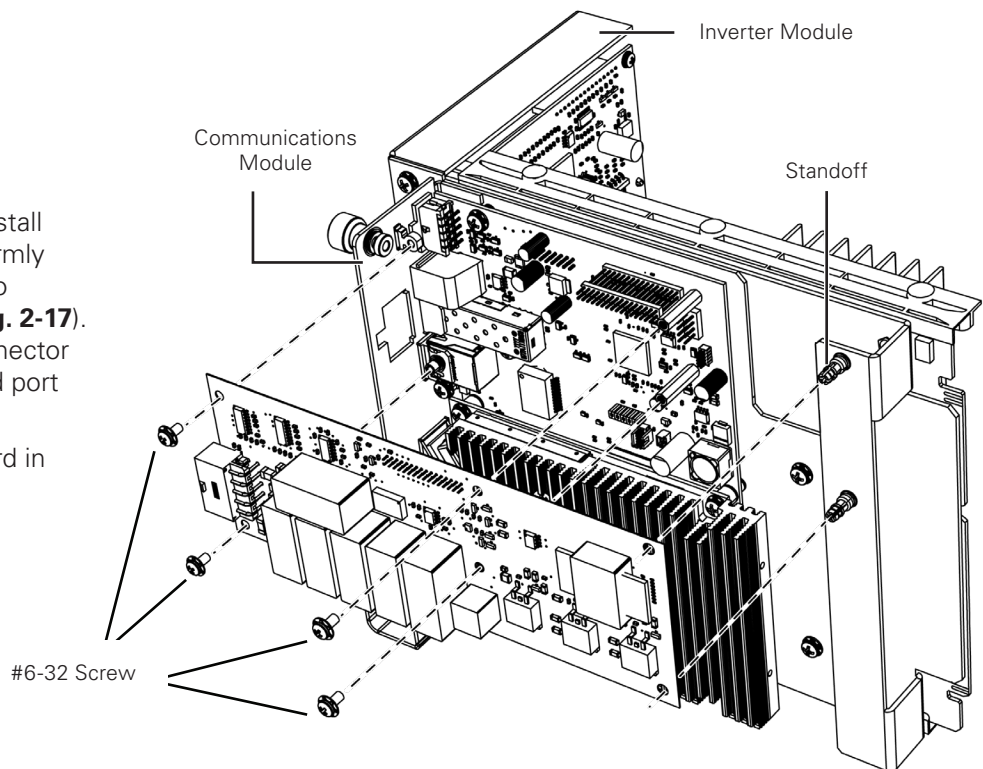

Fig. 2-17, Installing the SAG Card
2. In the communications module, install the Smart AlphaGuard™ card by firmly pressing the holes through the two standoffs on the right side (see **Fig. 2-17**). Ensure the Smart AlphaGuard connector lines up with the Smart AlphaGuard port opening on the module.